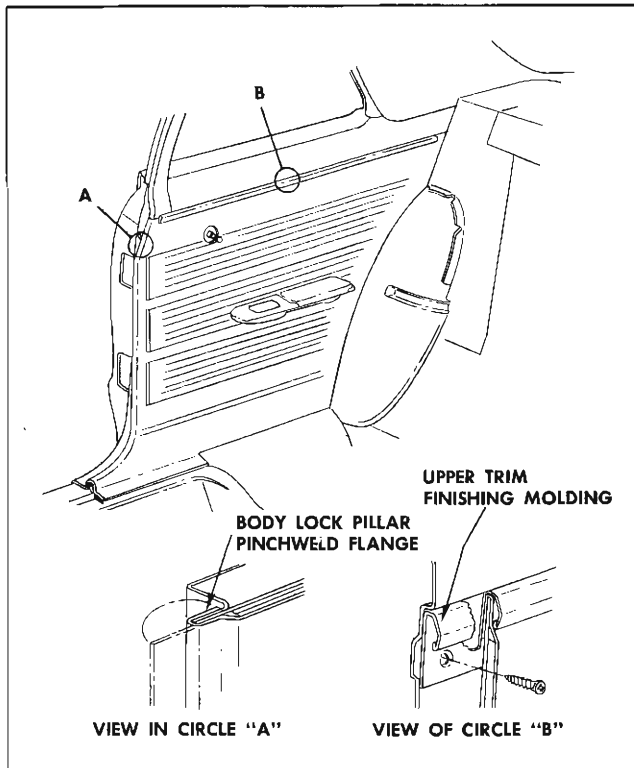

Fig. 13-3 Rear Quarter Trim
4. Beginning at rear, carefully pull upper edge of trim downward to disengage it from upper finishing molding (View B, Fig. 13-3).
6. To install, reverse removal procedure. Prior to installation of pinchweld finishing strip, cement forward overlapping edge of trim to pinchweld flange outboard surface (Fig. 13-3).
3. Pull trim downward to disengage from trim upper finishing molding similar to B, Fig. 13-3.
5. To install, reverse removal procedure. Prior to installation of pinchweld finishing strip, cement forward overlapping edge of trim to pinchweld flange outboard surface similar to A, Fig. 13-3.